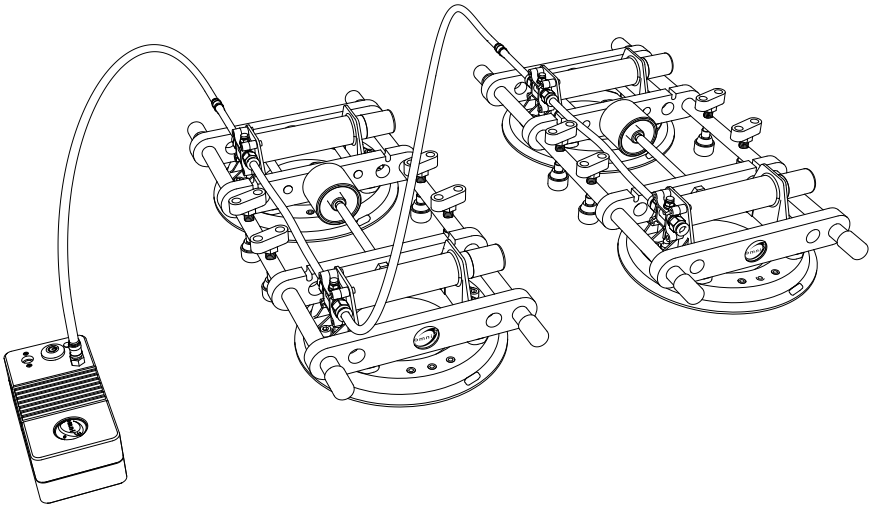

fig. 1
3. Connect the air tubing of the first seam setter to the vacuum pump, then connect the second seam setter to the first seam setter. (see fig. 1)